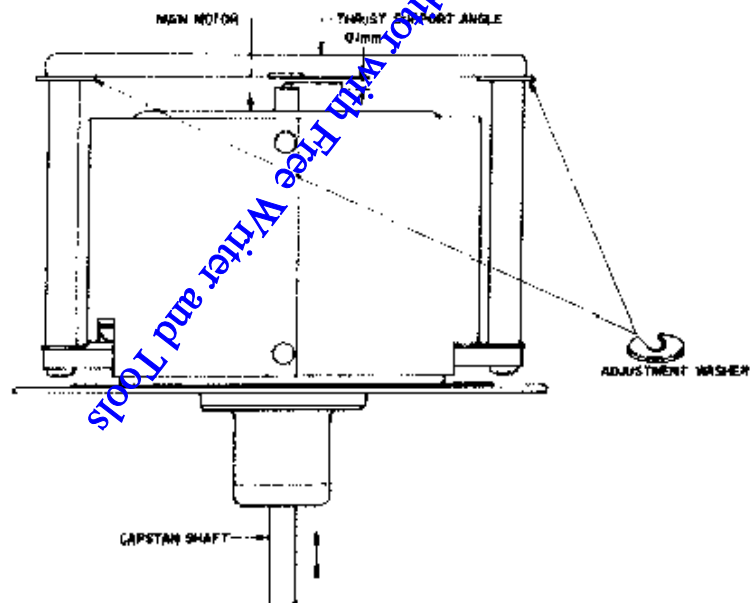

Fig. 8
16. CAPSTAN SHAFT LOOSE PLAY ADJUSTMENT (Refer to Fig. 8)